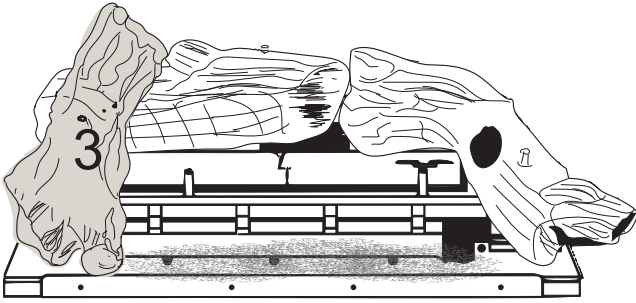

Figure 4 - Log #3 Placement
4. Hold log #3 with your left hand with the fat end away from you. Place log #3 by positioning the notch on the bottom of the log over the left side of the grate and rest the fat end onto log #2. See Figure 4.